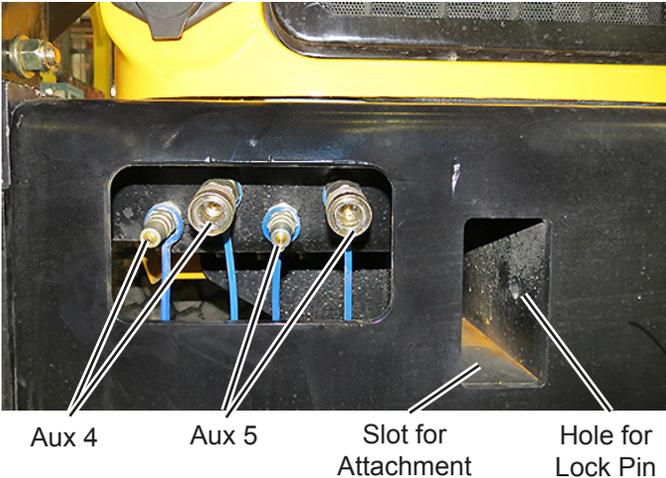

Figure 12
8. Connect the hydraulic lines to the Aux 4 quick connections (Figure 12).